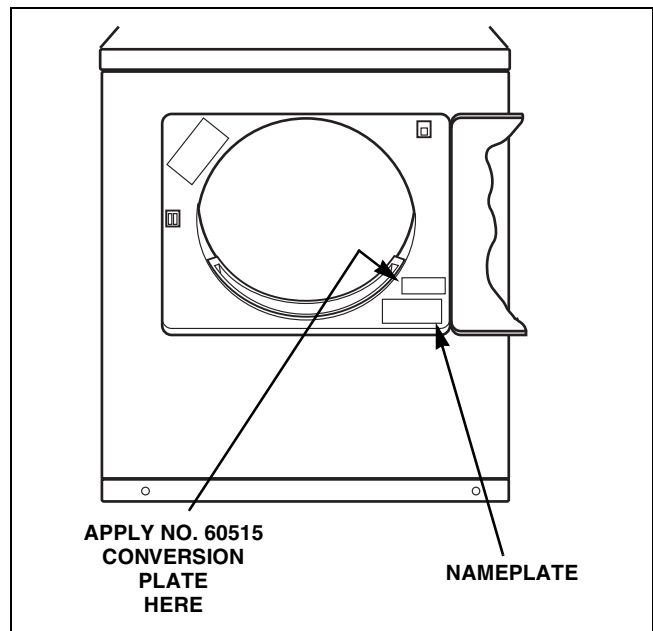

Figure 49
- Apply the No. 60514 Conversion Plate to the inside of the loading door opening above the nameplate. Refer to *Figure 49*.